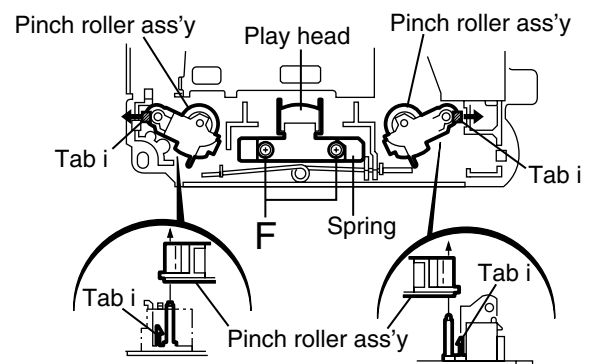

Fig.9
■ **Removing the play head (See Fig.9)**
■ **Removing the pinch roller ass'y (See Fig.9)**